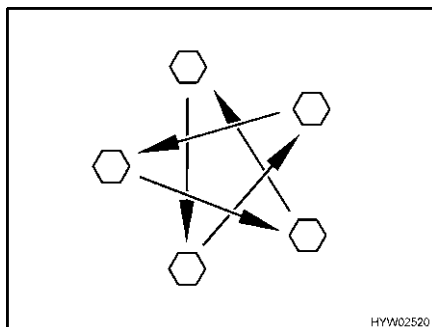

Fig. 250 Tighten the wheel nuts or wheel bolts cross-wise
- Check regularly that the wheel nuts or wheel bolts are firmly seated. Retighten the wheel nuts or wheel bolts of a changed wheel cross-wise (Fig. 250) after 50 km (30 miles). See section 13.5.2 for tightening torque.
- ▷ Tighten the wheel nuts or wheel bolts cross-wise (Fig. 250).